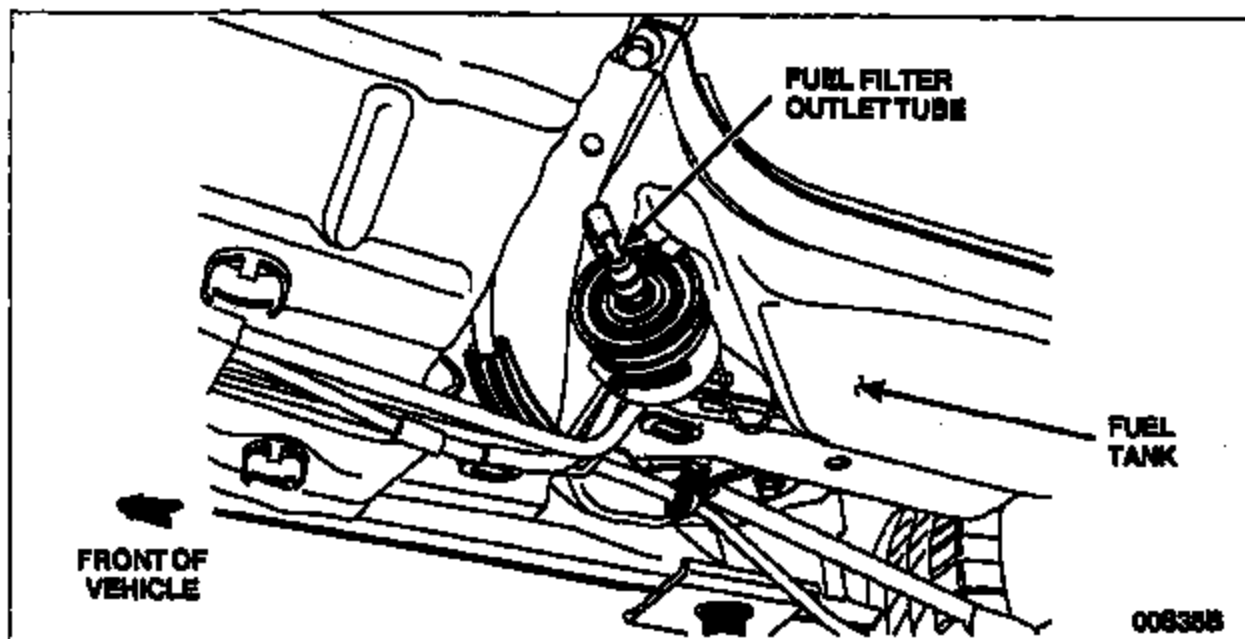

FIGURE 2
5. Disconnect the fuel filter outlet tube. See Figure 2.